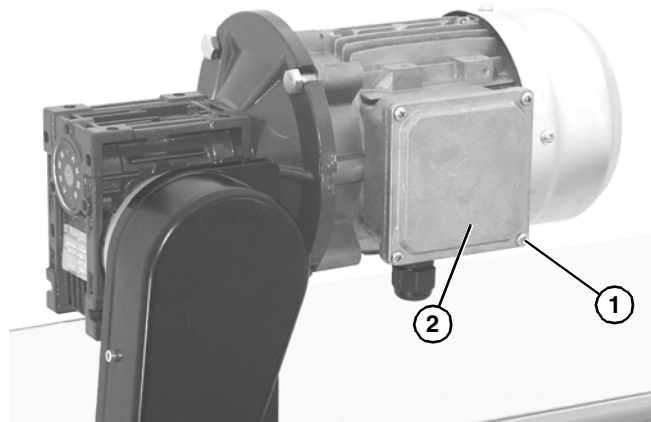

Figure 35
1. Loosen terminal box screws (Figure 35, item 1) and remove cover (Figure 35, item 2).